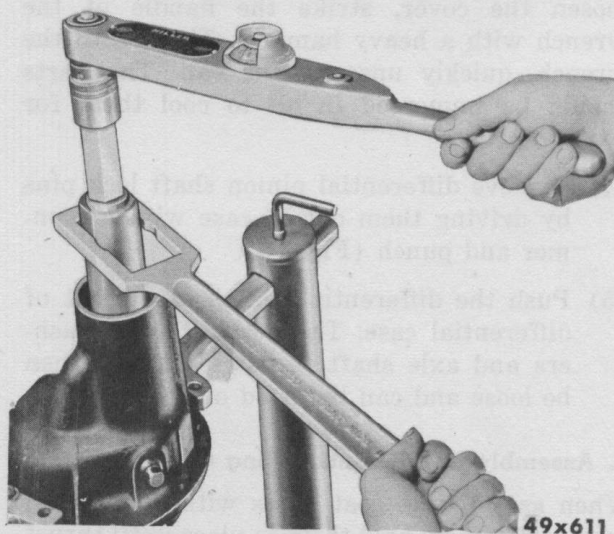

Fig. 14—Tightening Compression Nut with Foot-Pound Torque Wrench
- (c) Place *compression sleeve, centralizing washer and compression nut* over *main body* and tighten to 180 to 320 foot-pounds, as shown in Figure 14.